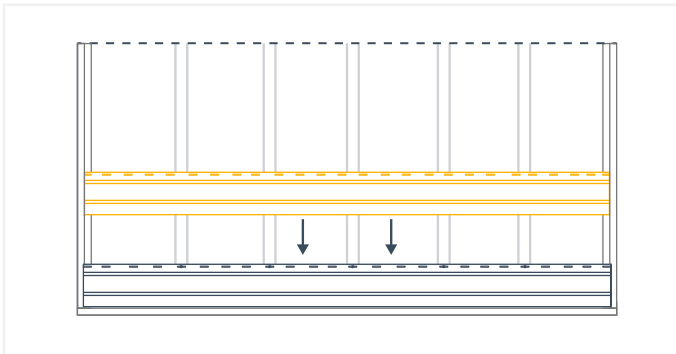

Fig. 32
11. Place the next panel on top of the previous one, ensuring both ends of the panel are inserted into the vertical trim channels (Fig. 32). See the next section in this document for more details on trim considerations.